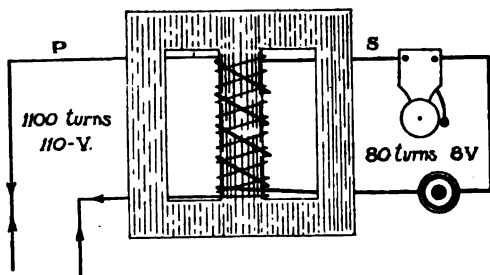

FIG. 432.—Diagram of "bell-ringing" transformer
**433. Choke Coils and Inductance.**—If we refer to Fig. 432 we see that the primary winding of the bell ringing